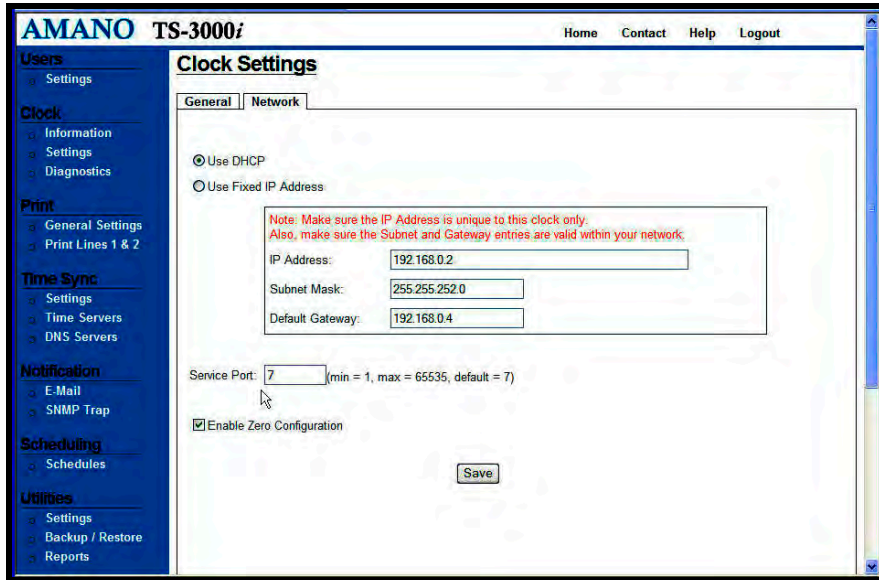

Figure 4-5: Network Clock Settings
Step 7. Click on the **Network** tab and the Clock Settings screen for network will appear (see Figure 4-5).